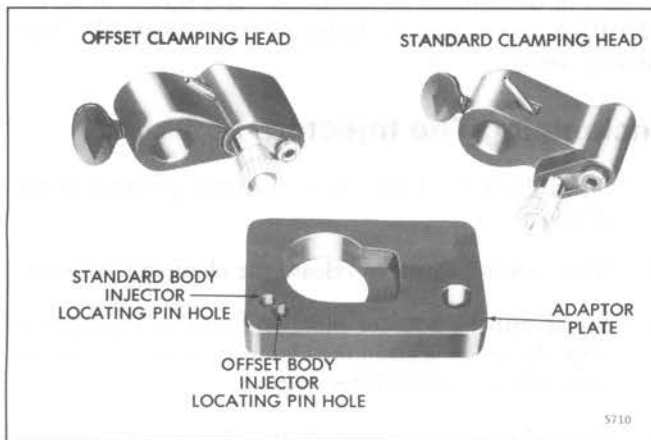
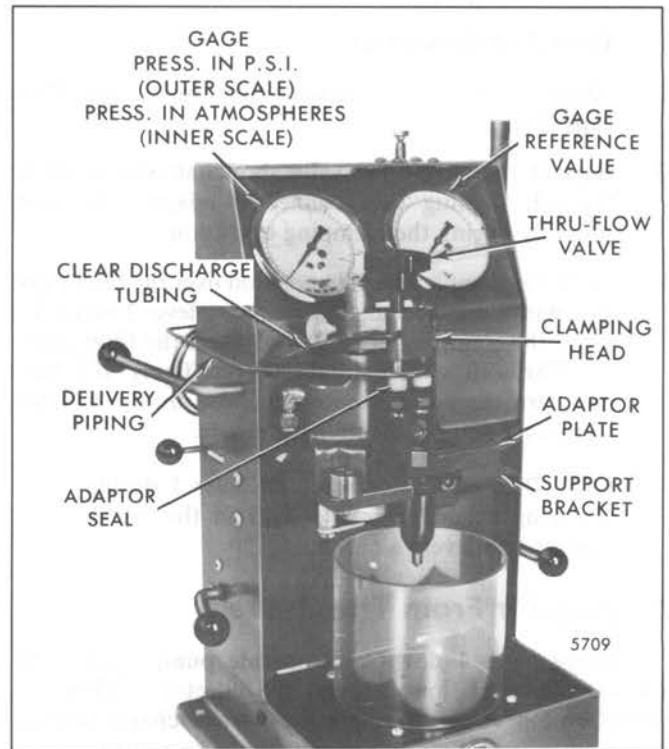

Fig. 1 – Injector Tester J 23010-A Clamping Heads
Fig. 2 – Injector Installed in Tester J 23010-A with Clamping Head
1. Select the proper clamping head (Fig. 1). Position it on the clamping post and tighten the thumb screw into the lower detent position (Fig. 2).
5. Mount the injector through the large hole and insert the injector pin in the proper locating pin hole (Fig. 1).
2. Align the clamping head seals over the injector filter caps (Fig. 2).